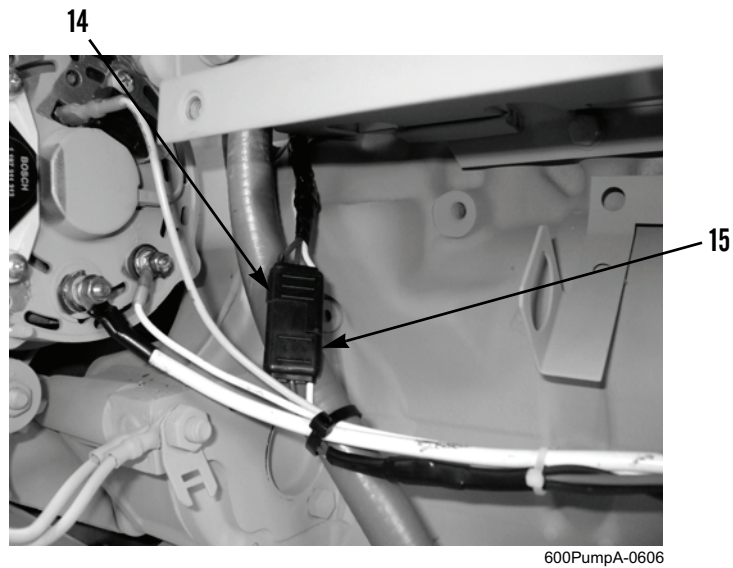

Figure 8. Cooling Fan V-Belt Shutdown Switch Connector.
3. Connect engine/control panel wiring harness connector (Figure 8, Item 15) to shutdown switch connector (Figure 8, Item 14).